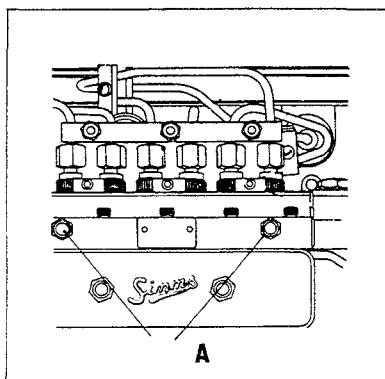

FIG. 9
6. Inspection of injection pump will reveal two additional bleed screws (Fig. 9). First loosen screw nearest to inlet line and repeat operation 4. The same procedure is then used on the last bleed screw.